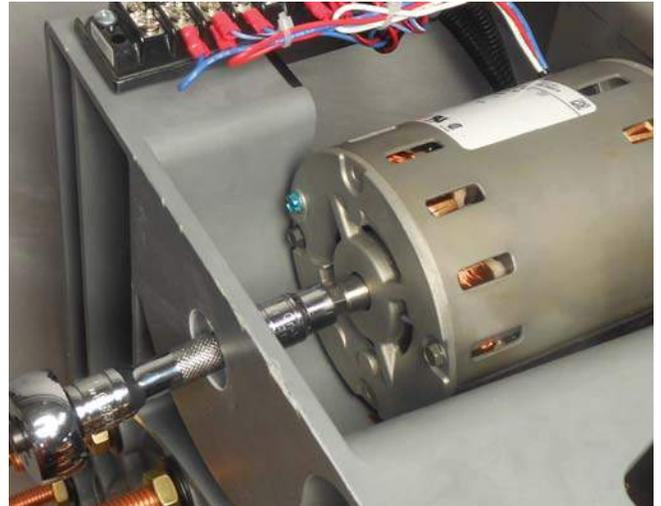

**Figure 48. Fastening reversing segment**
26. Place the self-locking nut onto the reversing segment shaft and tighten with a 9/16" wrench. The nut should be tightened to a torque of 180 to 192 in-lbs (20.3 to 21.7 Nm). See Figure 48.